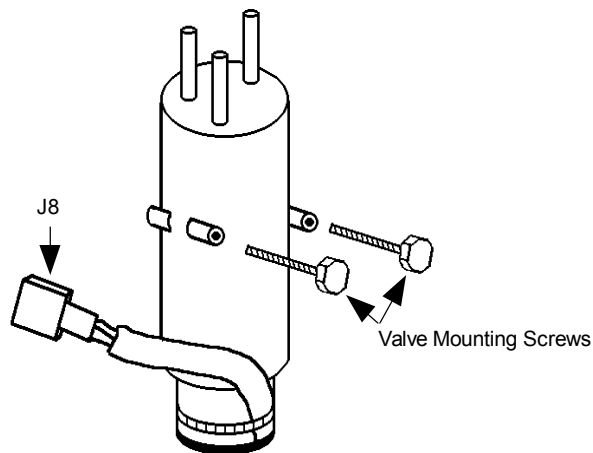

Figure 5-15. Valve and Valve Mounting Screws
3. Remove the two, valve mounting screws (refer to Figure 5-15) with the 7/32 inch open-end wrench from the FPC Kit.